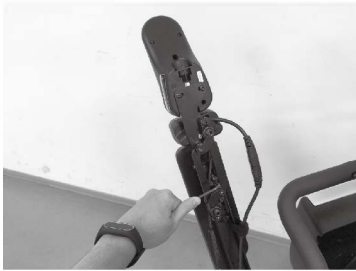

Fig C2
- (1) Use Allen key to loosen both screws, then move controller bracket forward and backward to desired position, retighten screws and lock armrest brace in receiver. (Fig C2)